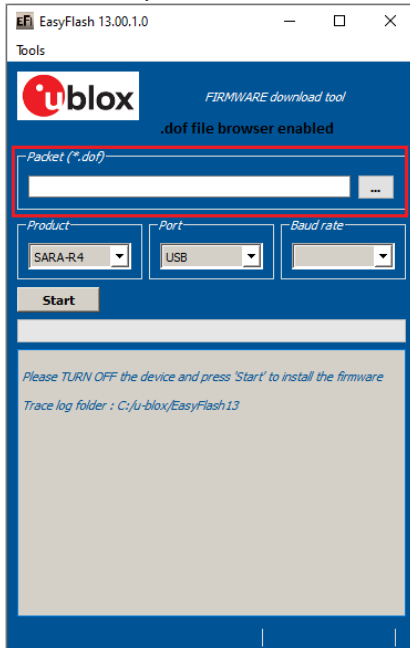

Figure 5: EasyFlash, select the ".dof" file path
- Select the path to the FW .dof flash file in the main window of the tool (see Figure 5).